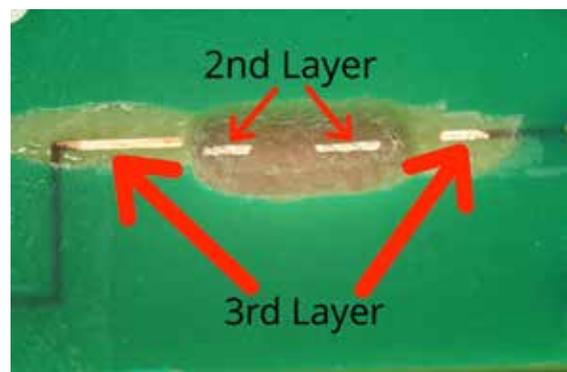
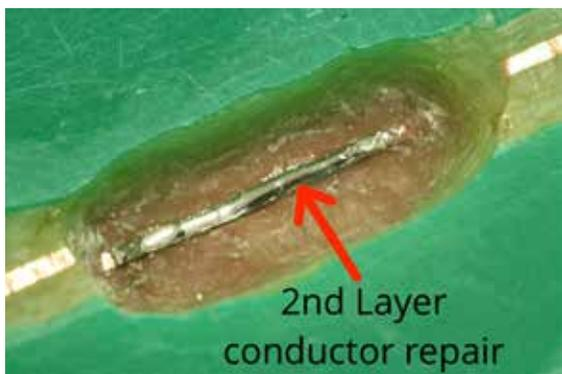

Figure 3
Figure 4
- Excavate down to layer 2 (*Figure 3*) and perform conductor repair (*Figure 4*).